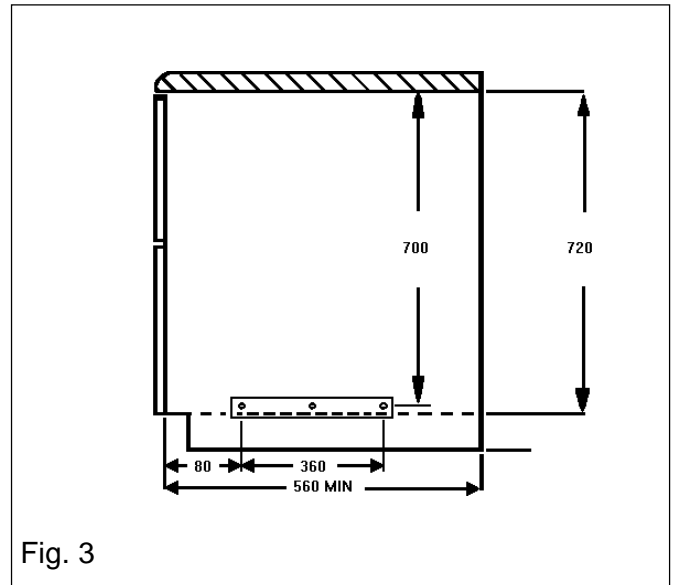

Fig. 3
- This cooker is designed to be fitted between cabinets with the recommended dimensions as shown in Fig. 3 & 4.